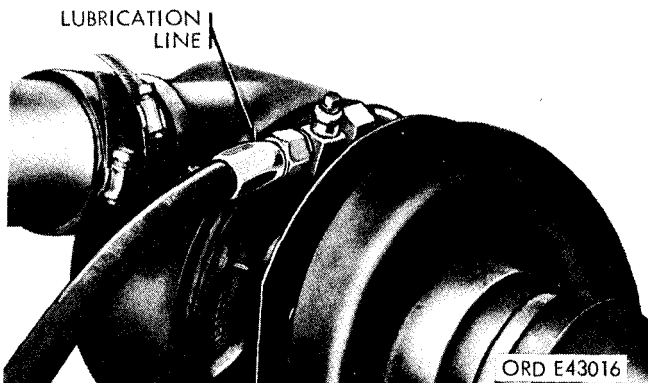

Figure 2-57. Disconnecting lubrication line at turbocharger —diesel.
(1) Disconnect lubrication line (fig. 2-57) from turbocharger.